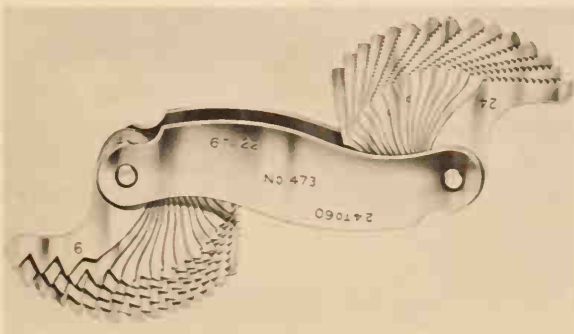

Fig. 4-91. A screw pitch gauge.
2. Select the correct size die for the diameter of the rod to be threaded. An N.C. or N.F. die can be used. When the number of threads per inch is not known, use a screw pitch gauge, Fig. 4-91. This gauge contains several thin blades which have sawlike teeth on them. To use the gauge, try blades until one is found that fits the threads